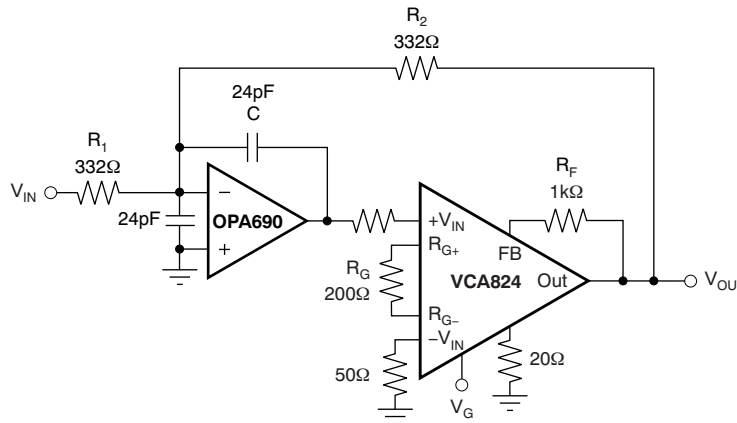

Figure 74. Voltage-Control Low-Pass Filter
In the circuit of Figure 74, the VCA824 serves as the variable-gain element of a voltage-controlled low-pass filter. This section discusses how this implementation expands the circuit voltage swing capability over that normally achieved with the equivalent multiplier implementation. The circuit control voltage, V_G, is calculated as according to the simplified relationship described in Equation 6.
Because the VCA824 is most linear in the midrange, the median of the adjustable pole should be set at $V_G = 0V$ (see Figure 13, Figure 33, Figure 54, and Equation 8). Selecting $R_1 = R_2 = 332\Omega$, and targeting a median frequency of 10MHz, the capacitance (C) is 24pF. Because the OPA690 was selected for the circuit of Figure 74, and in order to limit peaking in the OPA690 frequency response, a capacitor equal to C was added on the inverting mode to ground. This architecture has the effect of setting the high-frequency noise gain of the OPA690 to 2V/V, ensuring stability and providing flat frequency response.